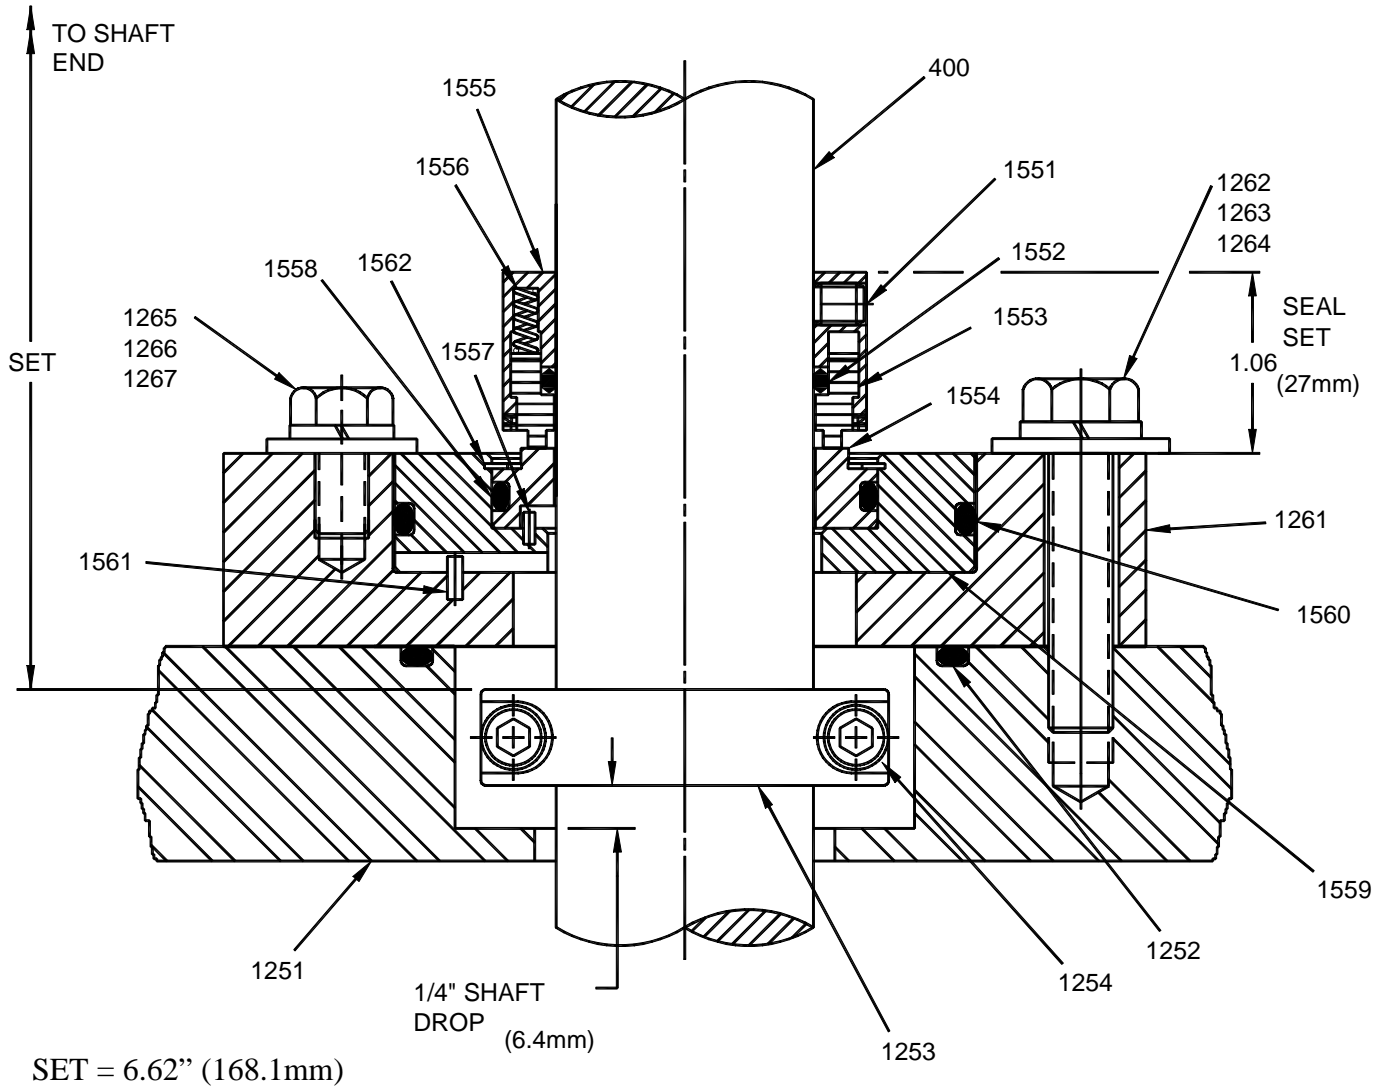

Figure 6: Model DTNS Seal, Crane 8B2
9. Set rotary seal ring **[1555]** retainer at 1.06" (26.9mm) above the adapter plate face per *Figure 6, page 14*. Evenly tighten all cup point setscrews **[1551]**.